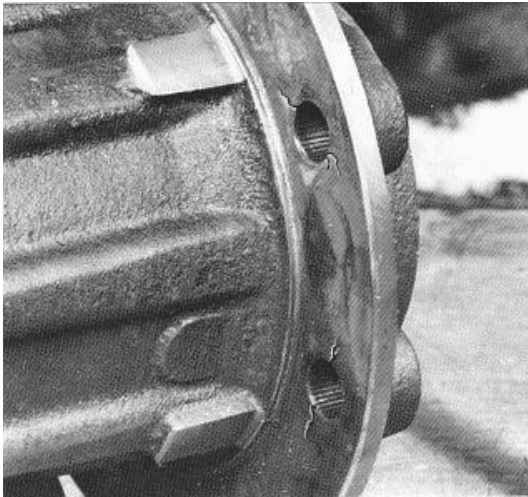

Figure 35 Worn Stud Holes
1. Worn Stud Holes (Figure 35). This condition is caused by stud turning in the hole because of insufficient torque on the inner nut (stud). Replace hub.